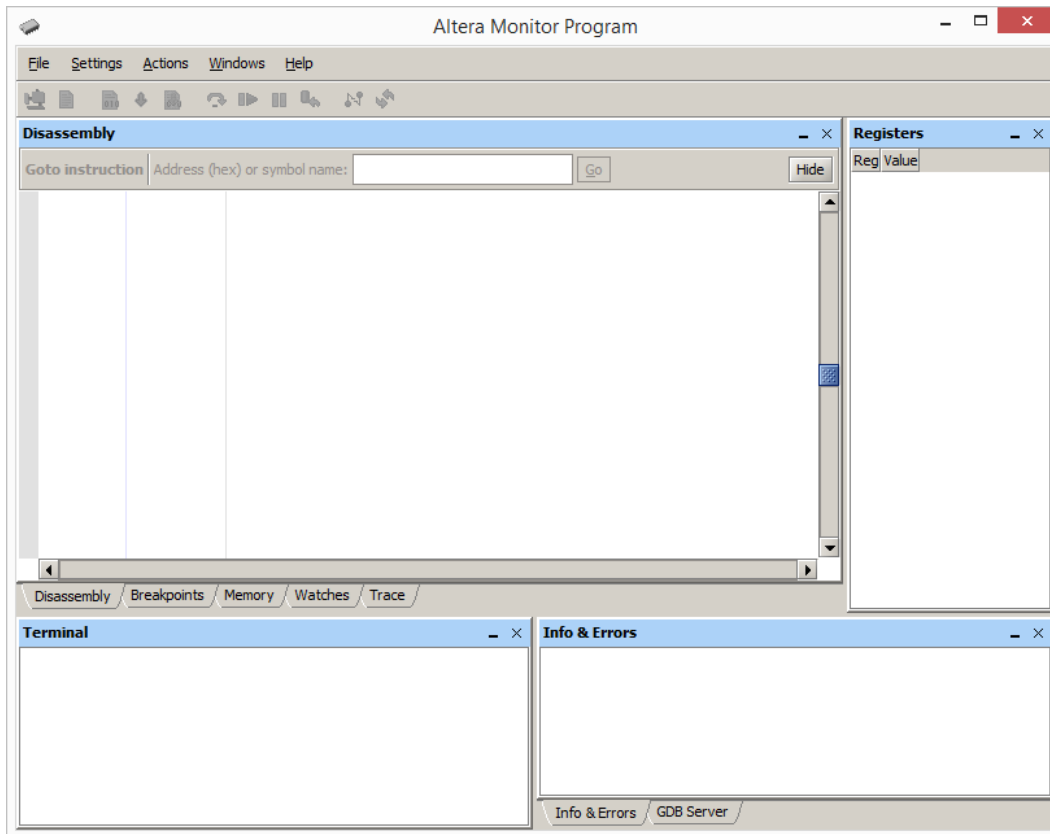

Figure 1: The Aardvark Monitor Program window.
2. Open the Aardvark Monitor Program software, which leads to the window in Figure 1.